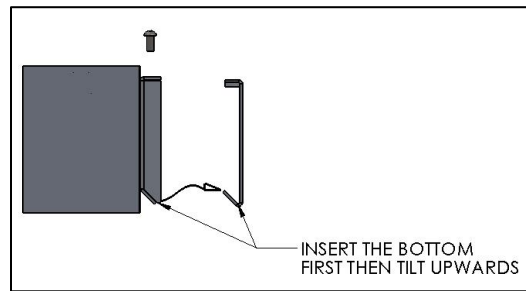

FIG. 9- FIXTURE INSTALLATION
- Pull BUILDING SUPPLY wires into the FIXTURE and attach the FIXTURE to the MOUNTING BRACKET (ANCHOR BRACKET) and secure with the SCREWS provided as shown FIG. 9.